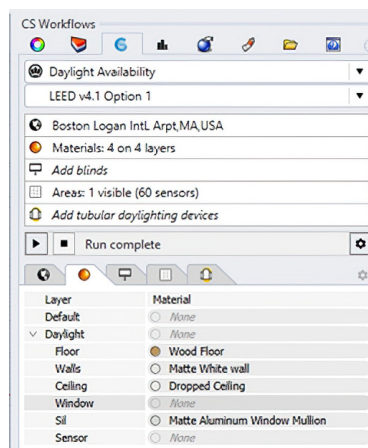

Figure 7 Materials tab
- Step 3 Select the desired workflow, in figure 7 "Daylight availability" is selected. Daylight availability comes with different predefined options, e.g. "EN 17037" or "LEED v4.1 option 1", you can read more about the options here.
- Step 4 Now, go to the materials tab in ClimateStudio Workflows. Select a material by clicking in the right column named "material", next to the layer that you wish to assign a material (see the lower part of figure 7).